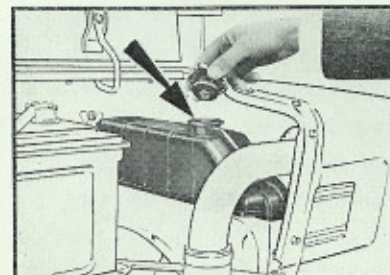

Figure 3
- (3) Examine the water or coolant level in the radiator. Refill as necessary, with clear, soft water or anti-freeze solution. The location of the radiator cap is shown in Figure 3.